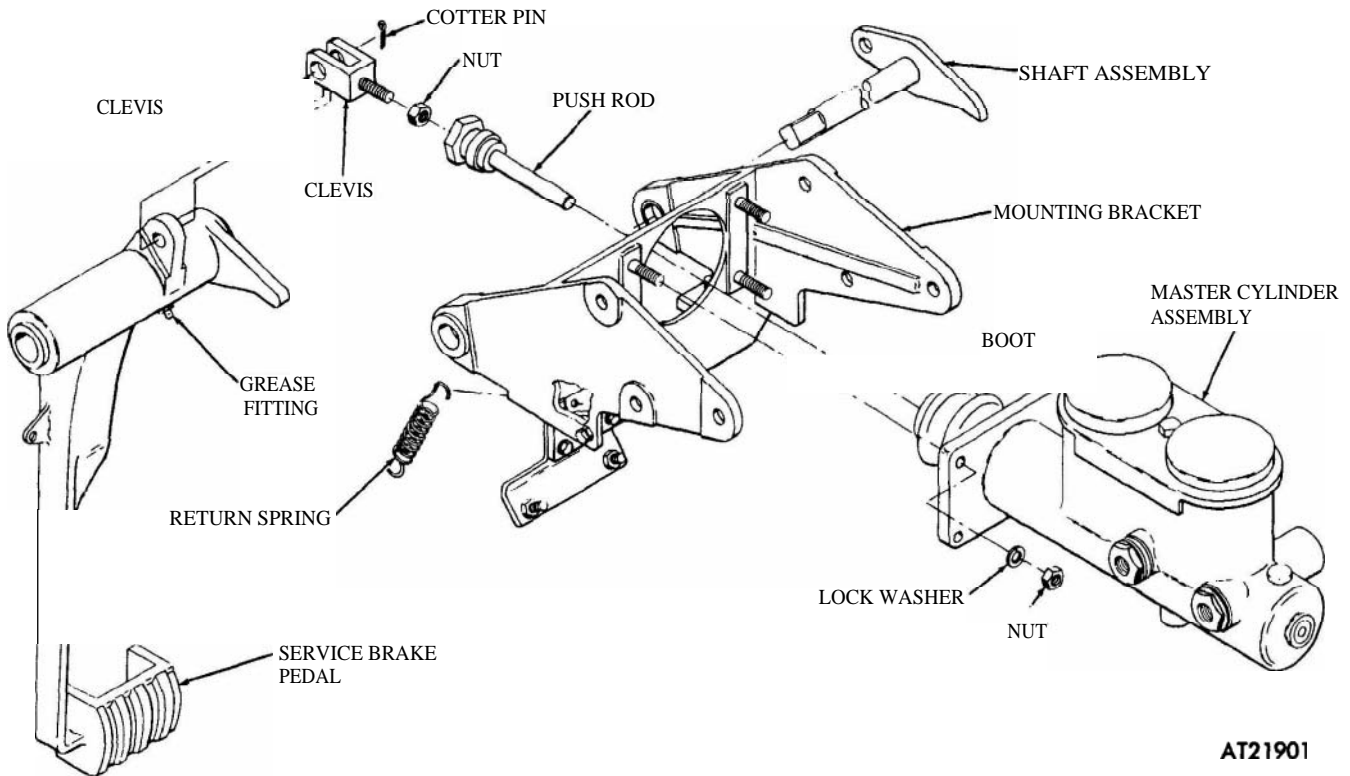

Figure 2-248. Service brake pedal and master cylinder, removal and installation.
(2) Remove driver seat (refer to para 2-221).
(3) Remove clutch pedal (refer to para 2-44).
(4) Remove cotter pin (fig 2-248) and **clevis** pin securing service brake pedal to the clevis. Disconnect return spring from service brake pedal.
(5) Extract shaft assembly from mounting bracket and remove service brake pedal.
(1) Position service brake pedal (fig 2-248) within mounting bracket and insert shaft assembly.
(2) Attach service brake pedal to clevis using clevis pin and cotter pin. Reconnect return spring.
(3) Install clutch pedal (refer to para 2-44).
(4) Install driver seat (refer to para 2-221).
(5) Replace master cylinder access panel.
(5) Disconnect hydraulic lines from master cylinder.
(6) Disconnect master cylinder (fig 2-248) from mounting bracket by removing four nuts and lock washers. Remove end of boot from cylinder and remove master cylinder through instrument panel opening.
(1) Position master cylinder to push rod and to mounting bracket. Attach end of boot to cylinder. Secure master cylinder (fig 2-248) to mounting bracket using four lock washers and nuts.
(2) Reconnect hydraulic lines to master cylinder.
(3) Remove master cylinder cover and fill both reservoirs with hydraulic fluid (refer to LO 9-2320-242-12).
(4) Bleed the brake system (refer to para 2-1616).